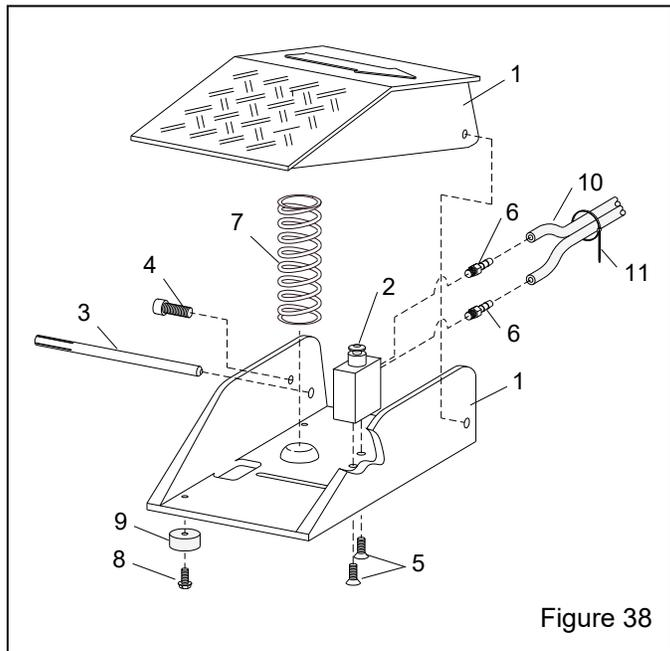

Figure 38
9.7 Foot Pedal Assembly – Figure 38